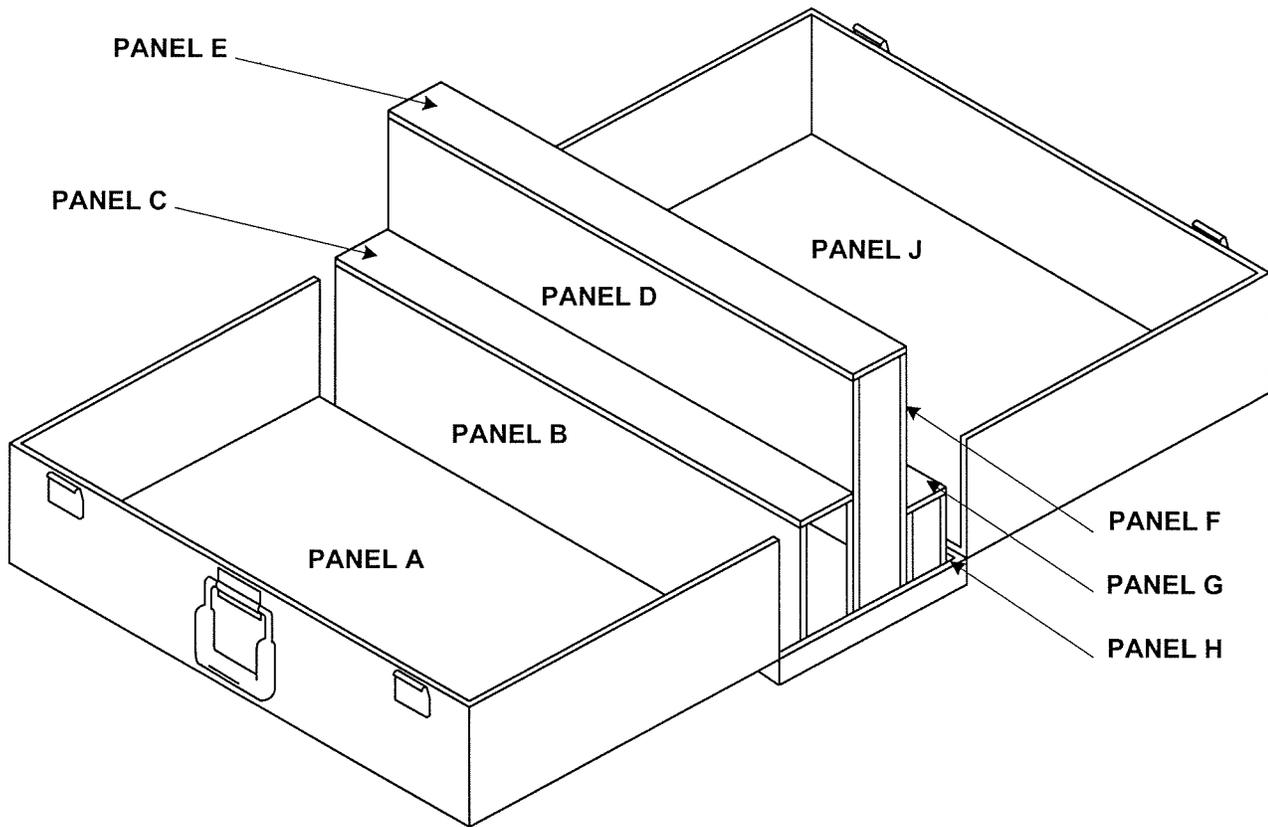

Figure 4-4. Toolbox, Portable Three Panel, Small "B" and Large "C"
- c. Toolbox, Portable Three Panel, Small "B", Part No. 6SE01086 shown in Figure 4-4, with small tier Part No. 6SE01088 has two door panels measuring 12 by 18 inches and a center section three level tiered insert. This box will hold approximately 70 tools and is used to accomplish tasks such as component replacement. The layout drawings of this box have the vertical and horizontal panels shown in the same plane for simplification.
- d. Toolbox, Portable Three Panel, Large "C", Part No. 6SE01087 shown in Figure 4-4, with large tier Part No. 6SE01089 is of the same basic design as the small box except larger. The approximate outside dimension is to be 17 by 22 by 8 inches. This box will hold about 100 tools of average size. It is used on more extensive aircraft maintenance tasks such as engine changes. In some cases this container can be used as a shop box. As with the small box, the layout drawings show all vertical and horizontal surfaces in one plane. These are designated panels A through J (less I).